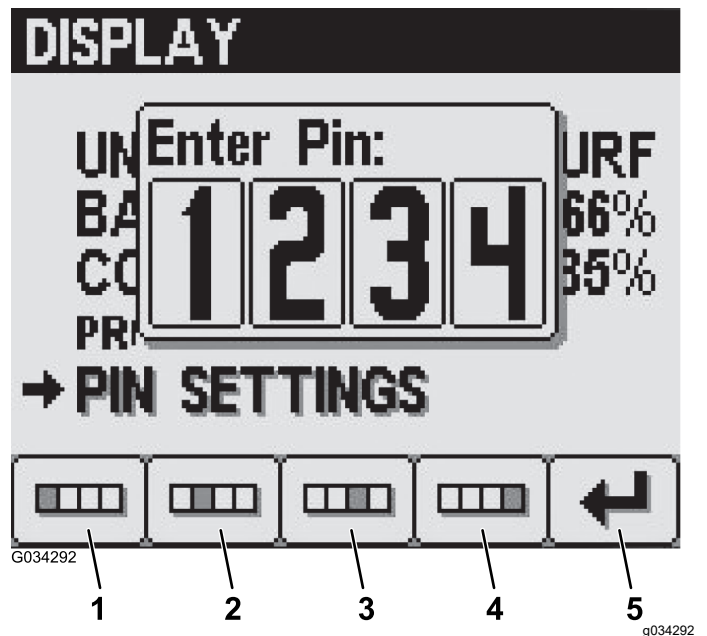

Figure 24
3. Press buttons 1 through 4 to enter your PIN code. When you complete entering the PIN, press button 5 (Figure 24).
4. At the enter old PIN screen, press buttons 1 through 4 to enter your old PIN code, and press button 5 when you complete the PIN (Figure 24).